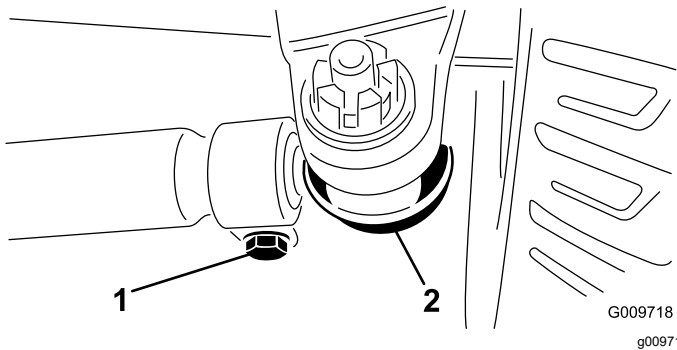

Figure 71
3. To adjust, remove the cotter pin and nut from either tie rod ball joint (Figure 71). Remove the tie-rod ball joint from the axle-case support.
4. Loosen the clamps at both ends of the tie rods (Figure 71).